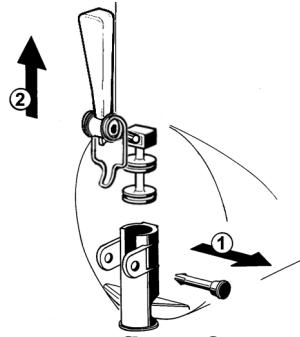

figure 9
- Dismantle the faucet assembly (see figure 9).
- 3 Assemble the faucet by reversing the disassembly steps (see figure 9)